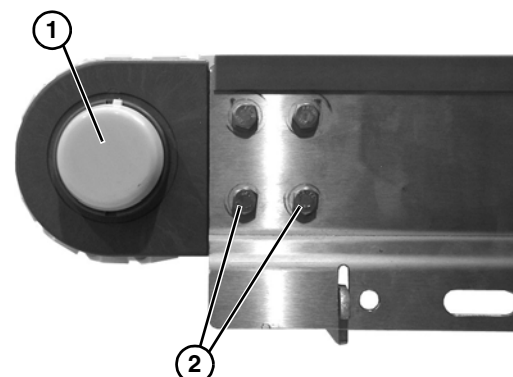

Figure 3
- a. For assembly on idler tail: Locate drive cover (**Figure 3, item 1**) on idler tail (opposite of auxiliary shaft). Remove two lower bolts (**Figure 3, item 2**).